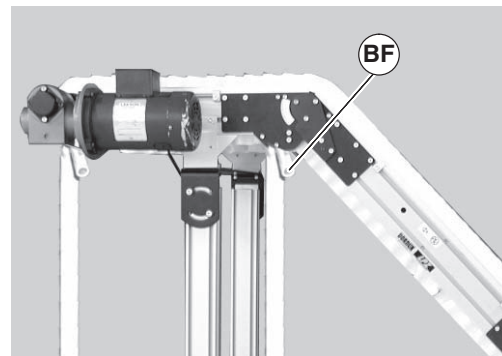

Figure 47
2. Place temporary support (Figure 47, item BF) under conveyor sections.